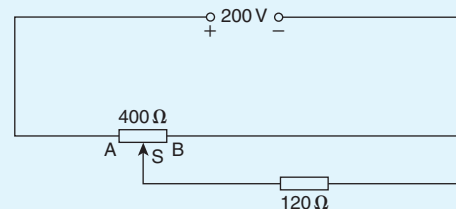

Figure 5.44
- For the circuit shown in Fig. 5.44, AS is  $3/5$  of AB. Determine the voltage across the  $120\ \Omega$  load. Is this a potentiometer or a rheostat circuit?